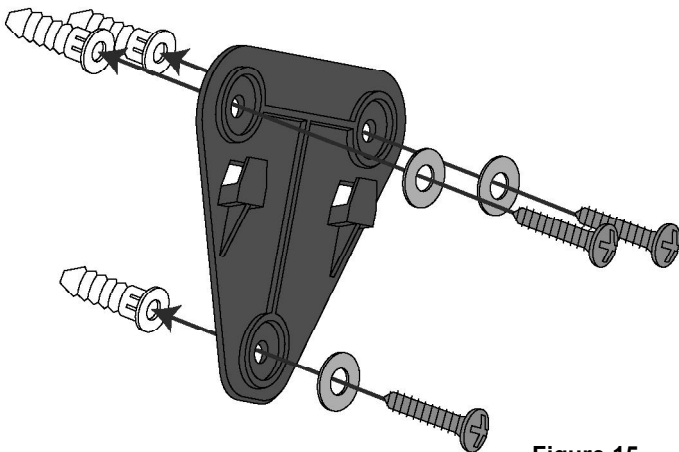

Figure 15
5. Align the triangular bracket with the screw anchors (Figure 15) and attach it with screws and washers. Tighten the screws with a Phillips-head screwdriver.